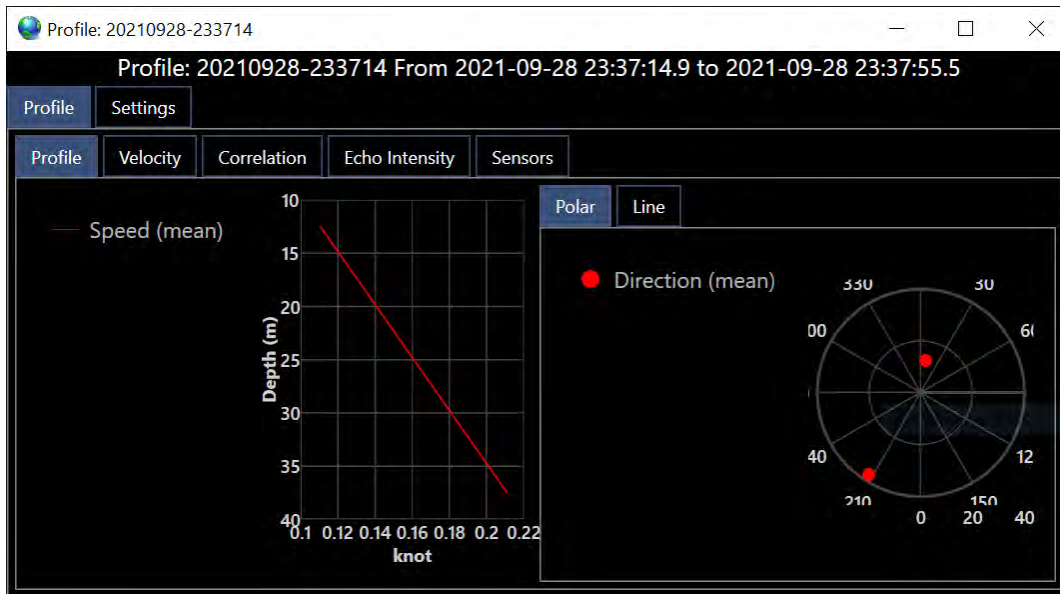

FIGURE 18-24 LIVE ADCP PROFILE SAVED
- When profile is completed click on Finish and Save Profile, this opens a summary window (see Figure 18-24, click on the X in upper right corner of the window. This is saved for viewing using View ADCP Profiles.